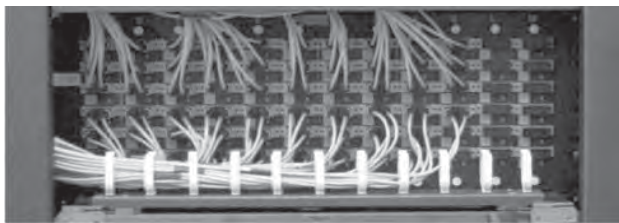

Figure 17
- Route jumpers through the opening above and out the sides of the patch field (Figure 17).